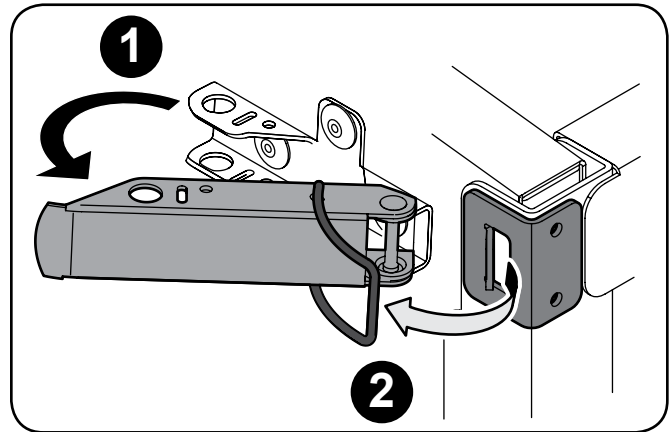

Figure 4-5
2. Unlatch the tailgate from the steel cargo box. See "Figure 4-5".